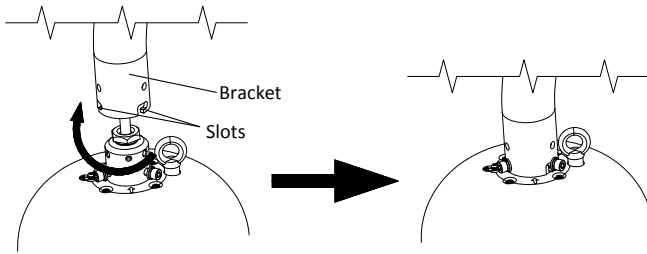

Figure 2-12 Rotate the Bracket
4. Align the bracket with the cable joint and rotate the bracket clockwise until three preassemble screws on the cable joint hooks onto three slots on the bracket as shown in Figure 2-12.